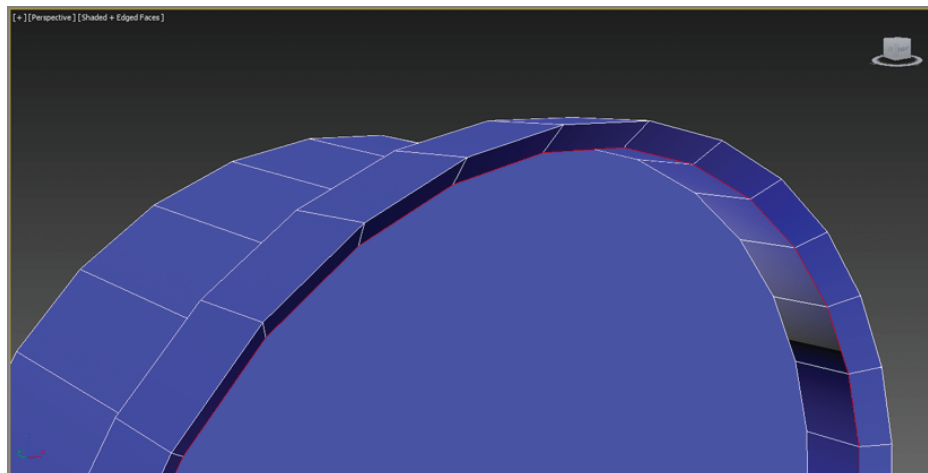

FIGURE 2.12 Move the edges back.
7. Move the edges back toward the beveled surface, as shown in Figure 2.12.